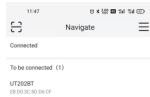

Figure 14
- 1) Short press the button  to turn on UT202BT Bluetooth, if UT202BT fails to connect with the APP, the Bluetooth symbol on the LCD will flash. Tap "iDMM2.0" icon on mobile phone to enter Navigate interface, "iDMM2.0" will search UT202BT Bluetooth automatically, after the model "UT202BT" is displayed in the list (Figure 14), please select "UT202BT" to connect. The other way to connect is to scan the QR code on UT202BT. After the connection is completed, the Bluetooth symbol on LCD will be displayed constantly, data communication, measurement value display, button control and other operations can be achieved between iDMM2.0 and UT202BT.